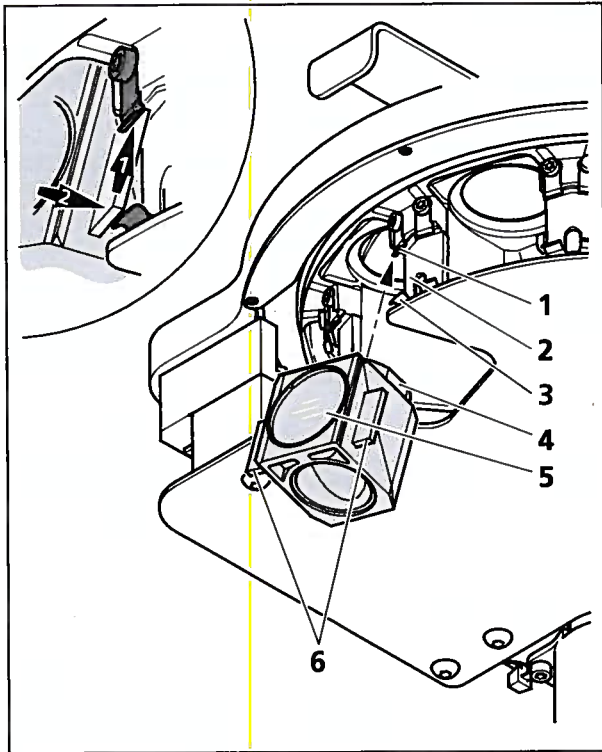

Fig. 6-9 Inserting and removing the FL P&C reflector module
- To insert the FL P&C reflector module with the retaining elements mounted on the right and left of the FL P&C reflector module (Fig. 6-9/6) push it at an angle from below into the upper spring clips (Fig. 6-9/1) in the corresponding position (Fig. 6-9/2) of the reflector turret.
- Then press the FL P&C reflector module from below towards the front until it also engages securely in the lower spring clips (Fig. 6-9/3) of the reflector turret.
Filter mounting position: Excitation filter (Fig. 6-9/5); emission filter (Fig. 6-9/4).